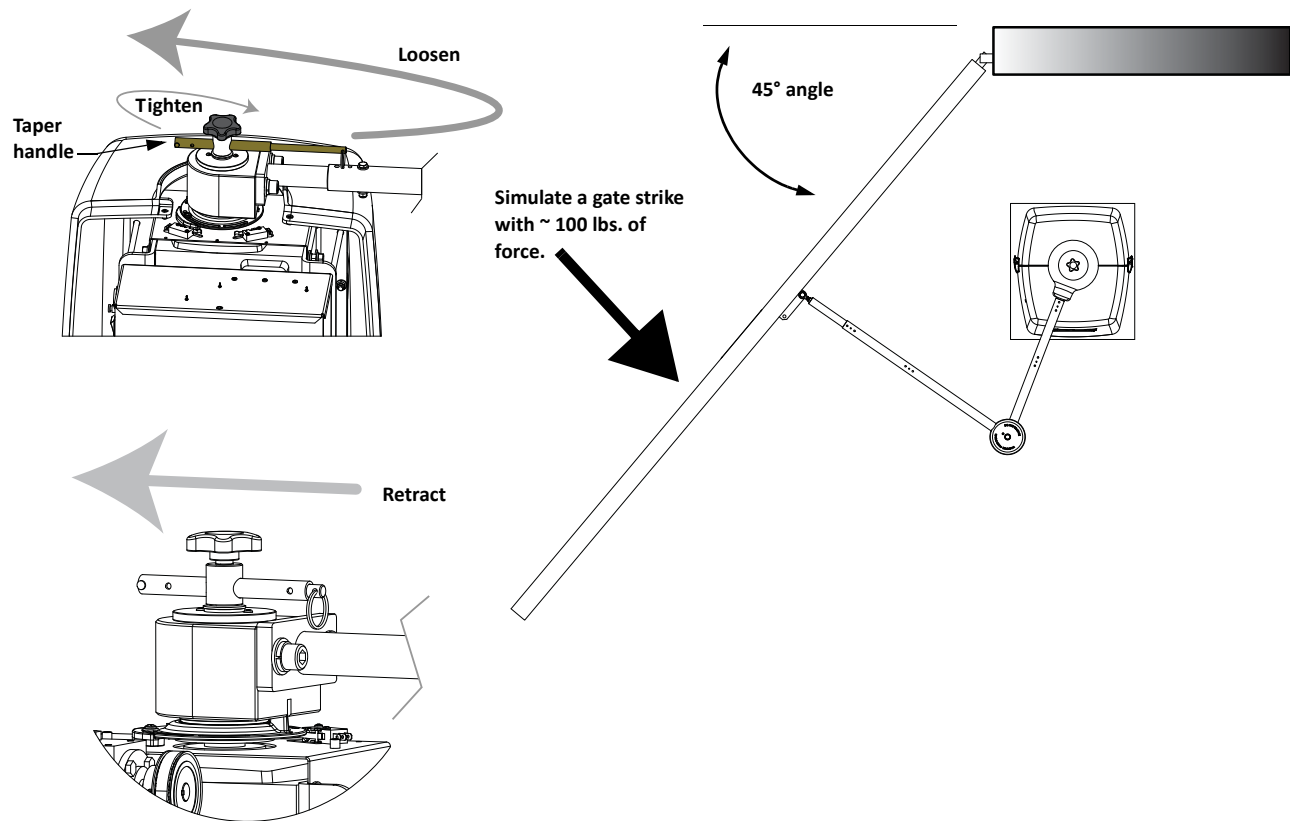

Figure 1-16.
1. To loosen and release the taper clamp, extend the taper handle and turn the handle counterclockwise. See Figure 1-16.